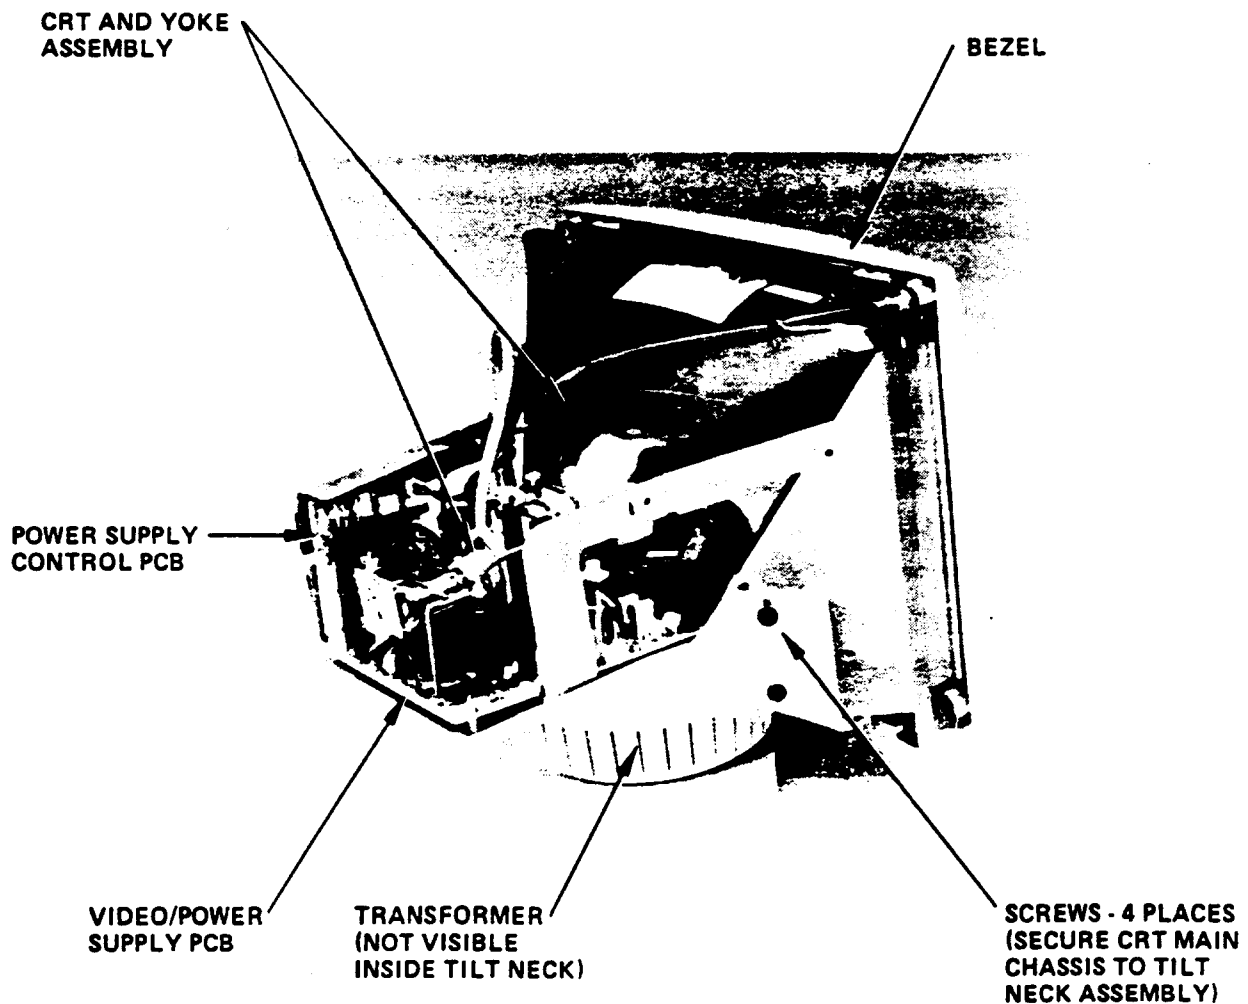

Figure 2-1. Upper Monitor Assembly
The Upper Monitor Assembly of the QVT 101 PLUS Terminal consists of the following major subassemblies (refer to Figure 2-1):
1. Remove the four black screws that hold the tilt neck assembly to the main chassis (refer to figures 2-1 and 2-11).